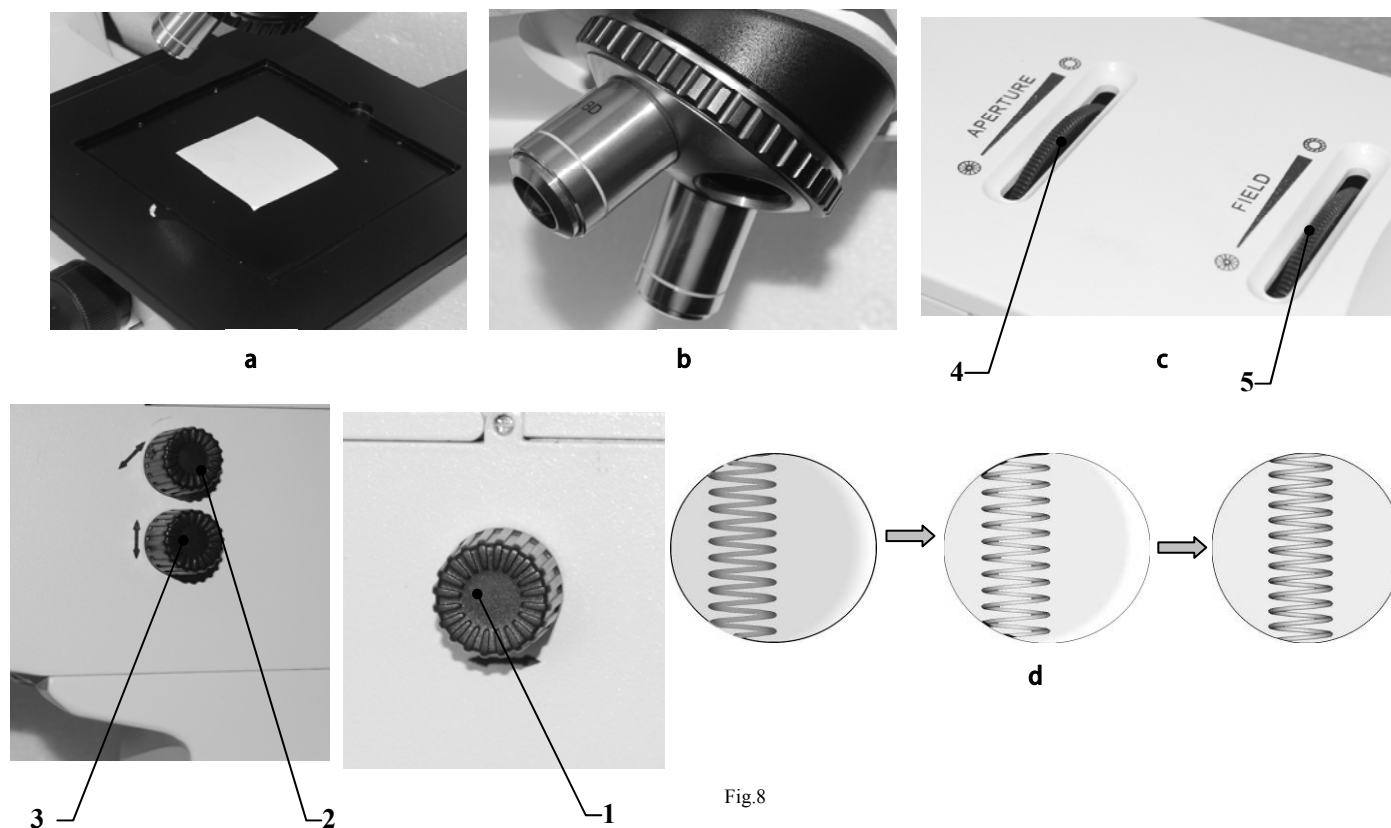

Fig.8
- (1) Prepare a piece of white paper (about 40mmX50mm) and place it on the stage, as shown in Fig. 8-a.
- (2) Take out a objective and turn the nosepiece to make the through-hole into optical path, as shown in Fig.8-b.
- (3) **Open the** field diaphragm and aperture diaphragm, At this point, a bright light spot will be shown on the white paper, with a filament image inside, as shown in Fig.8-c.
- (4) If the filament image is unclear, adjust the collector lens to make clear by adjusting knob 1.
- (5) If the filament image deviates from the center of the bright light spot, as shown in Fig.8-d, the bulb center should be adjusted, adjust the lamp transverse adjustment knob 2 and vertical adjustment knob 3 to calibrate bulb center.